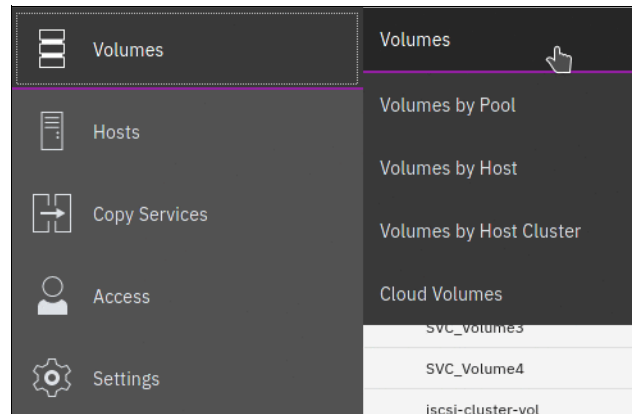

Figure 6-10 Volumes menu
1. Click the **Volumes** menu and click the **Volumes** option of the IBM Spectrum Virtualize GUI, as shown in Figure 6-10.